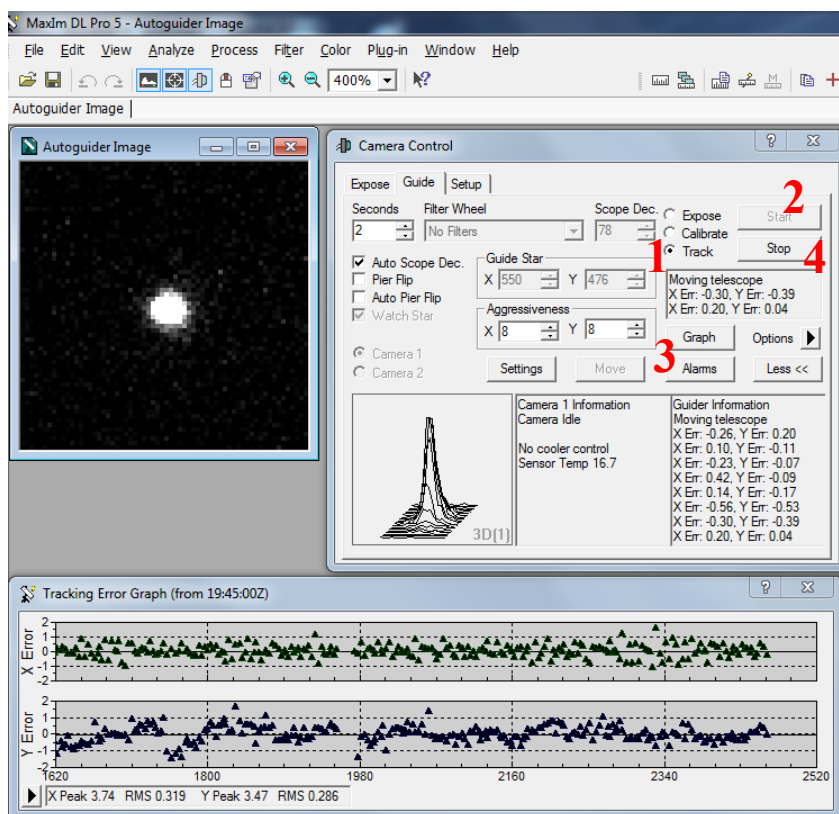

Fig. 3.5. The A/G system under regular operation.
3. Select the “Track” option (Fig. 3.5 No 1) and press “Start” (No 2).